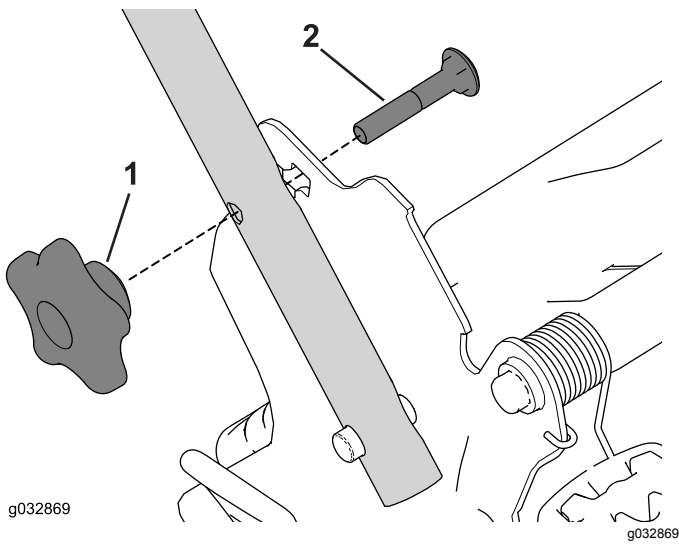

Figure 29
2. Remove and save the 2 handle knobs and 2 carriage bolts from the handle brackets (Figure 29).